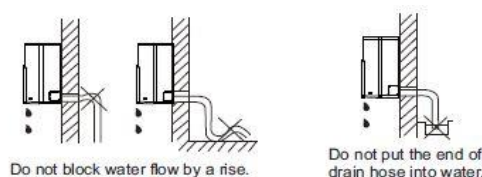

Fig.7
- Run the drain hose sloping downward. Do not install the drain hose as illustrated in Fig.7. When connecting extension drain hose, insulate the connecting part of extension drain hose with a shield pipe, do not let the drain hose slack.